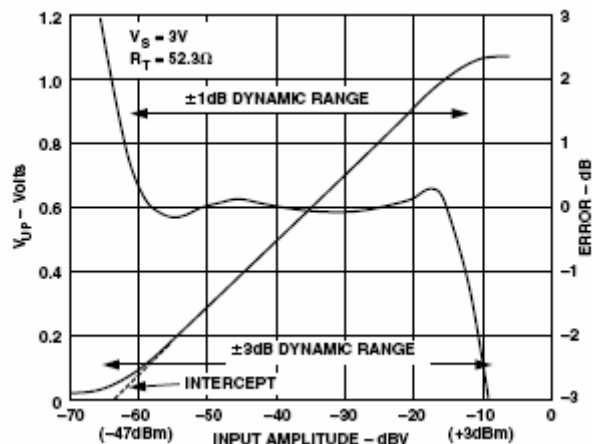

Figure 23. VOUT and Log Conformance Error vs. Input Level vs. Input Level
0.9 GHz, and only slightly less at higher frequencies up to 2.5 GHz. At a slope of 21.5 mV/dB, this would amount to an output span of 967 mV. Figure 23 shows the transfer function for VOUT at a supply voltage of 3 V, and input frequency of 0.9 GHz.
The load resistance on VOUT should not be lower than 10 k $\Omega$  in order that the full-scale output of 1 V can be generated with the limited available current of 200  $\mu$ A max. Figure 23 shows the logarithmic conformance under the same conditions.